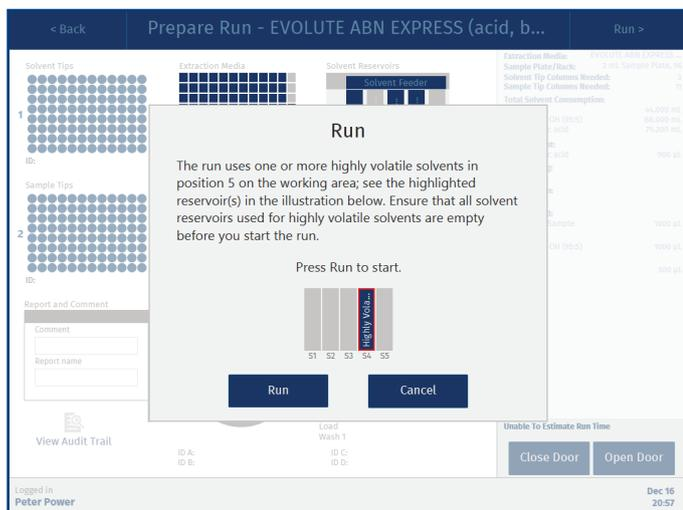

Figure 70. The Run dialog when using a highly volatile solvent in reservoir S4 on the working area.
41. When a highly volatile solvent is assigned to a solvent reservoir in position **5**, its position is highlighted in the **Run** dialog (see Figure 70). Ensure that all highlighted reservoirs are empty.